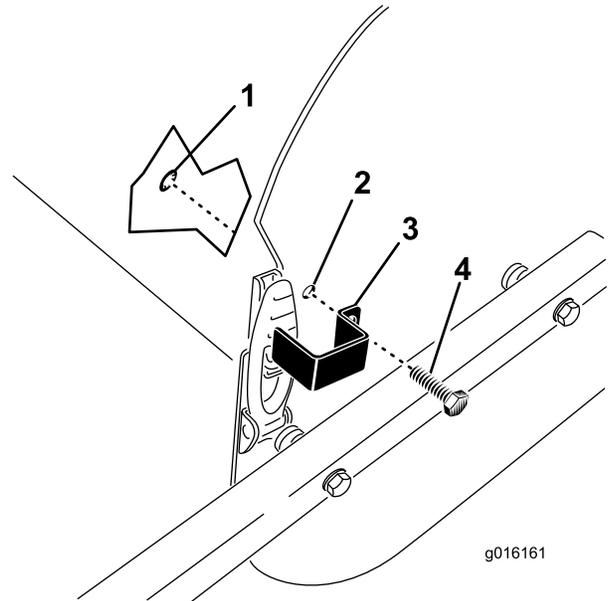

Figure 30
- Position the latch plate over the hood latch while aligning the mounting hole with the hole in the side plate (Figure 30).
- Secure the latch plate to the side plate with a tap bolt and a retaining ring (Figure 30).